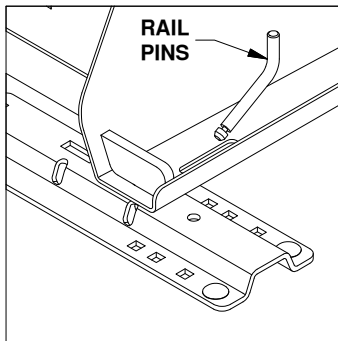

Figure B2:
2. Locate the 4 rail pins and hair pins. Insert each pin into the long slots in the base and through the rails. Lock each pin into place with a hair pin, see Figure B2 & B3.